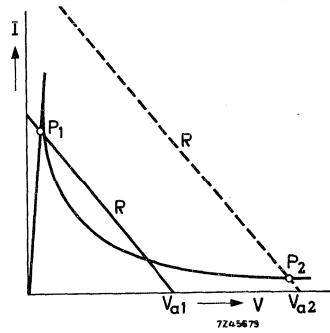

Fig.7.
- (2) the ambient temperature increases (Fig.7);